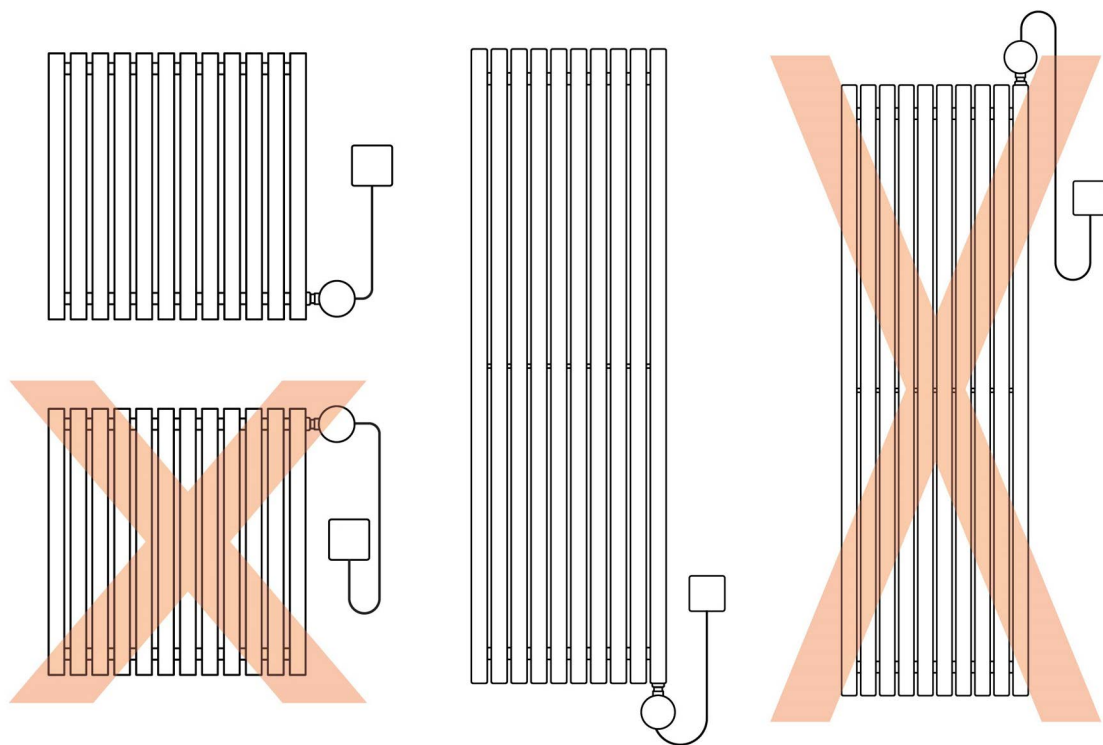

Figure 1 | Correct and incorrect element positioning
- Do not hang the radiator with the heating element at the top (**Figure 1**).
The power lead must be connected to a socket which must be at least 25cm from the floor. Do not connect the element to the power supply until it is secured within the radiator and correctly orientated, as demonstrated in **Figure 1**.